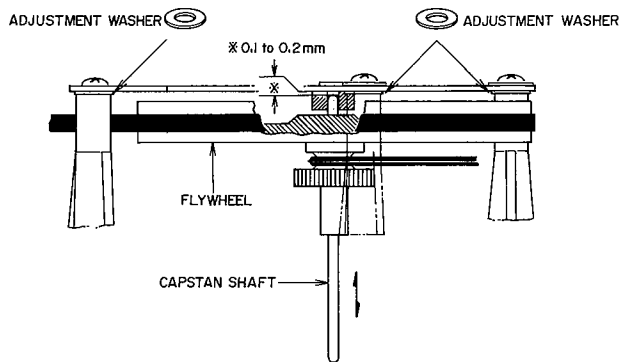

Fig. 19
3. FLYWHEEL LOOSE PLAY ADJUSTMENT (Refer to Fig. 19)